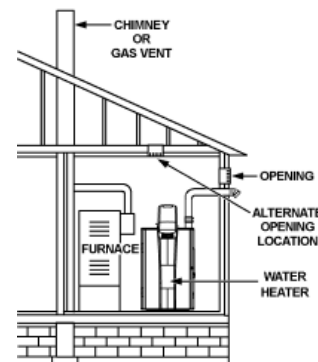

FIGURE 15
5. Alternatively a single permanent opening may be used when communicating directly with the outdoors, or with spaces that freely communicate with the outdoors. The opening should have a minimum free area of 1 square inch per 3,000 BTU per hour (8.3 cm²/kW) of total input rating of all equipment in enclosure (see Figure 15).